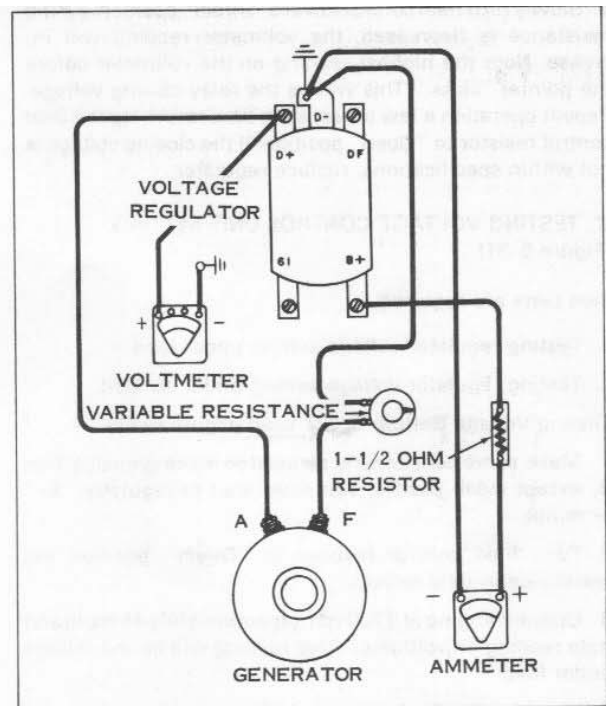

Figure 5-30.
**A. TESTING GENERATING SYSTEM (Figure 5-30)**
**B. TESTING CUTOUT RELAY UNIT CLOSING VOLTAGE - SAME CONNECTIONS ARE USED AS IN TEST A (Figure 5-30)**